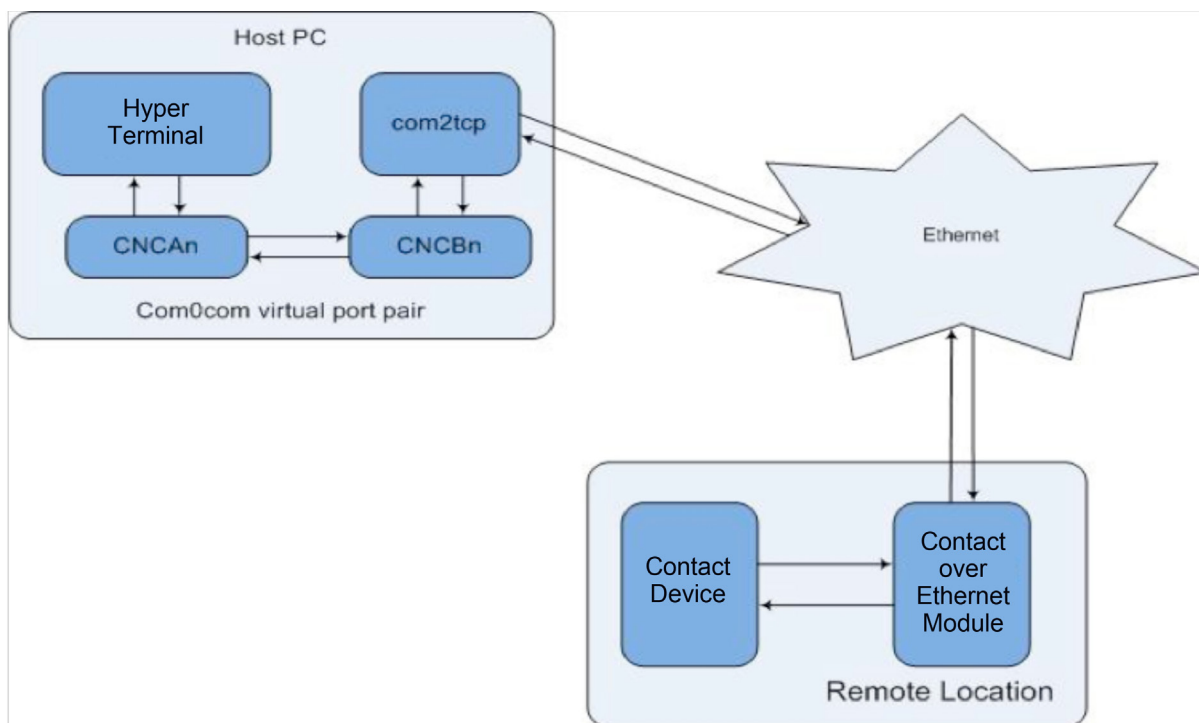

Figure 20 - Connection creation
- » The Host PC connects to the remote contact over Ethernet modules, as shown in Figure 20.